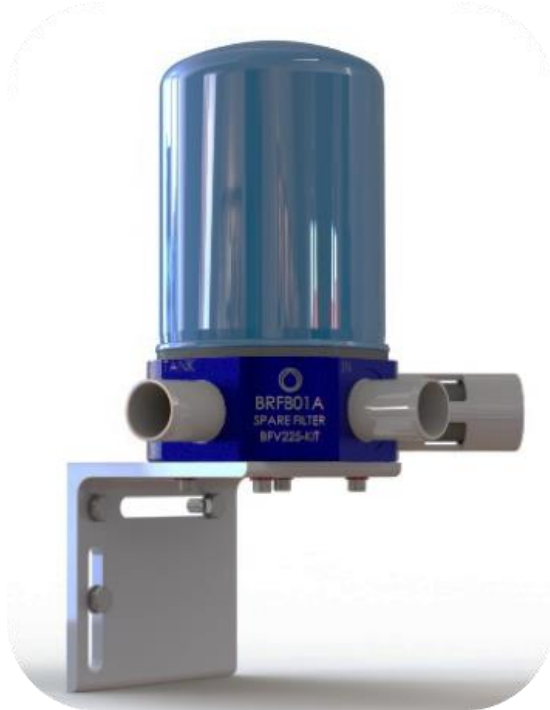

Figure 12 - BRFBM1
- Figure 12; Universal bracket (mild steel) mounting kit.